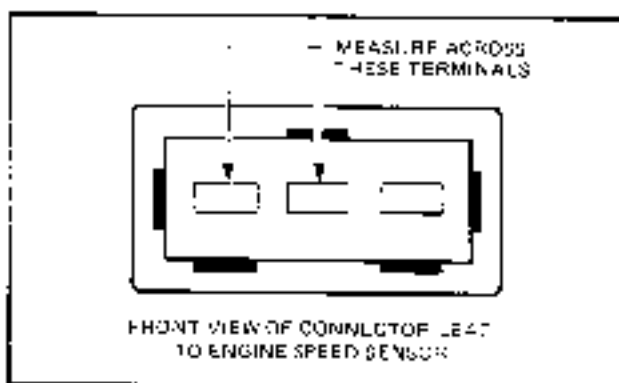

Figure 6D-53
1. Disconnect sensor wiring harness connection at the fuse box side of the rocker cover. Refer Fig. 6D-53A.
2. Connect an ohmmeter across sensor terminals shown in Fig. 6D-53. Resistance should be in the range of 1 to 1.2 k Ω . Any deviation in the resistance value than specified the sensor is considered faulty and must be replaced.
2. Disconnect engine speed sensor wiring harness connection, at the fuse box side of the rocker cover. Refer Fig. 6D-53A.